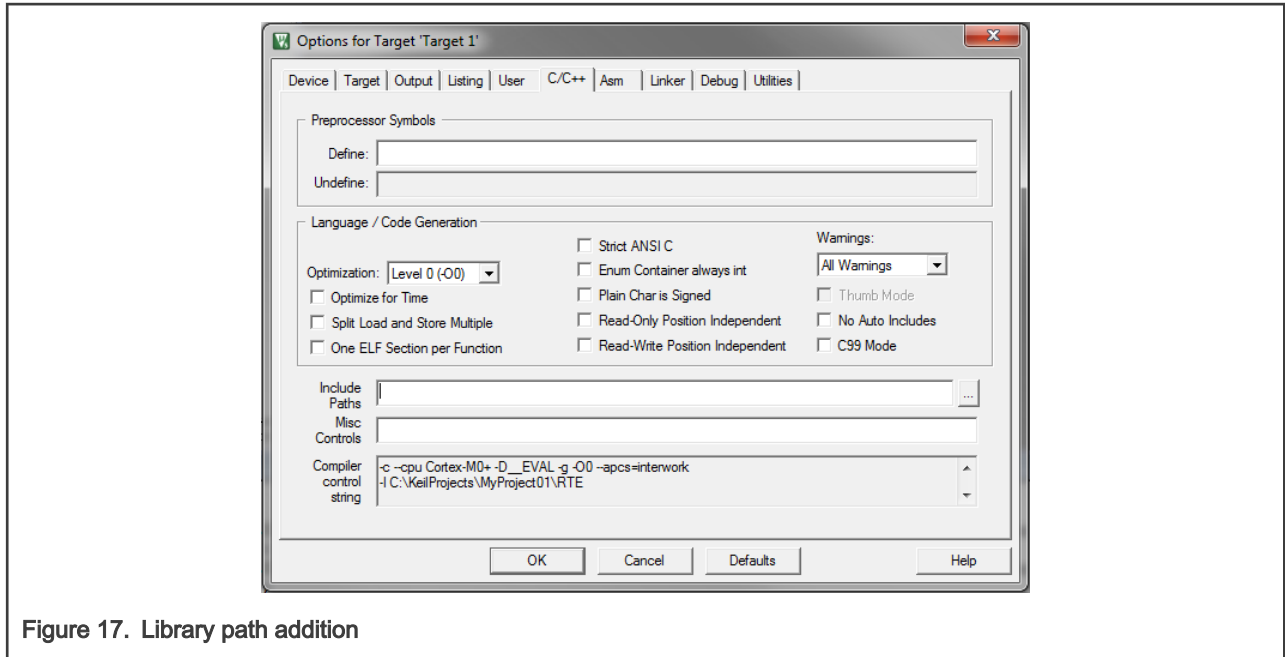

Figure 17. Library path addition
2. Select the C/C++ tab. See Figure 17.